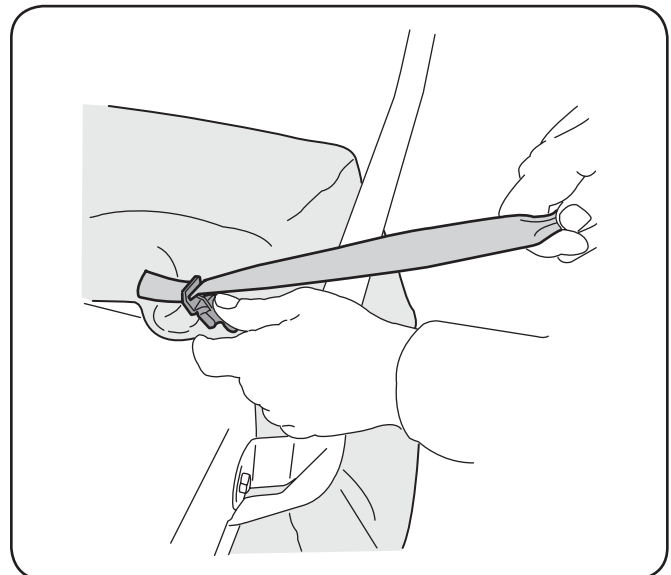

Figure 3-6
3. Squeeze the clamp on the drawstring and pull the drawstring tight. Release the clamp. See Fig. 3-6.